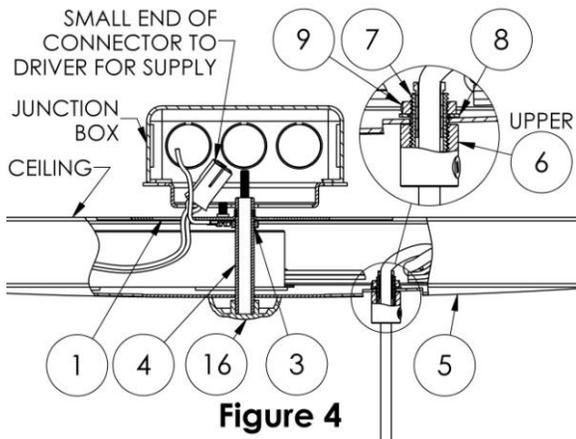

Figure 4
- Attach small end of connector to the driver wires, black (hot) & white (neutral), for connecting to supply, **Figure 4**.
- Place the canopy (5) center hole onto the stem from the center of canopy plate (1) installed in **Step 1, D**. Insert any wires that may be protruding around the top of the canopy so it sits flush against the ceiling, **Figure 4**.